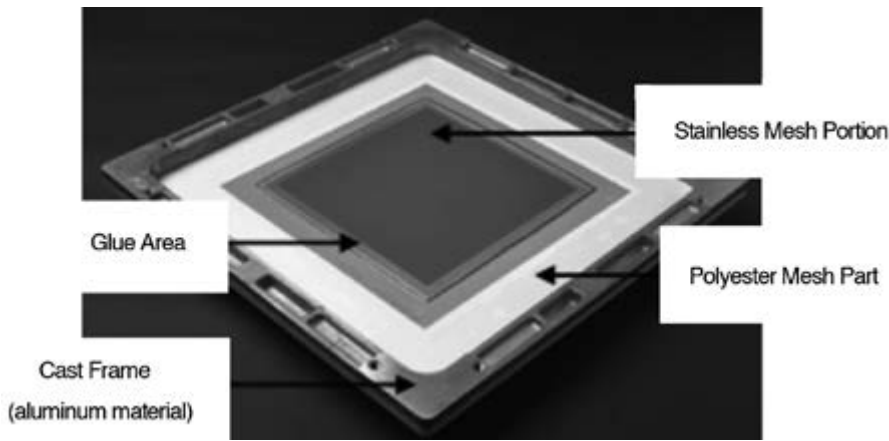

Figure 6: Combination stencil (trampoline style)
5.1 Combination stretching – trampoline style: Figure 6